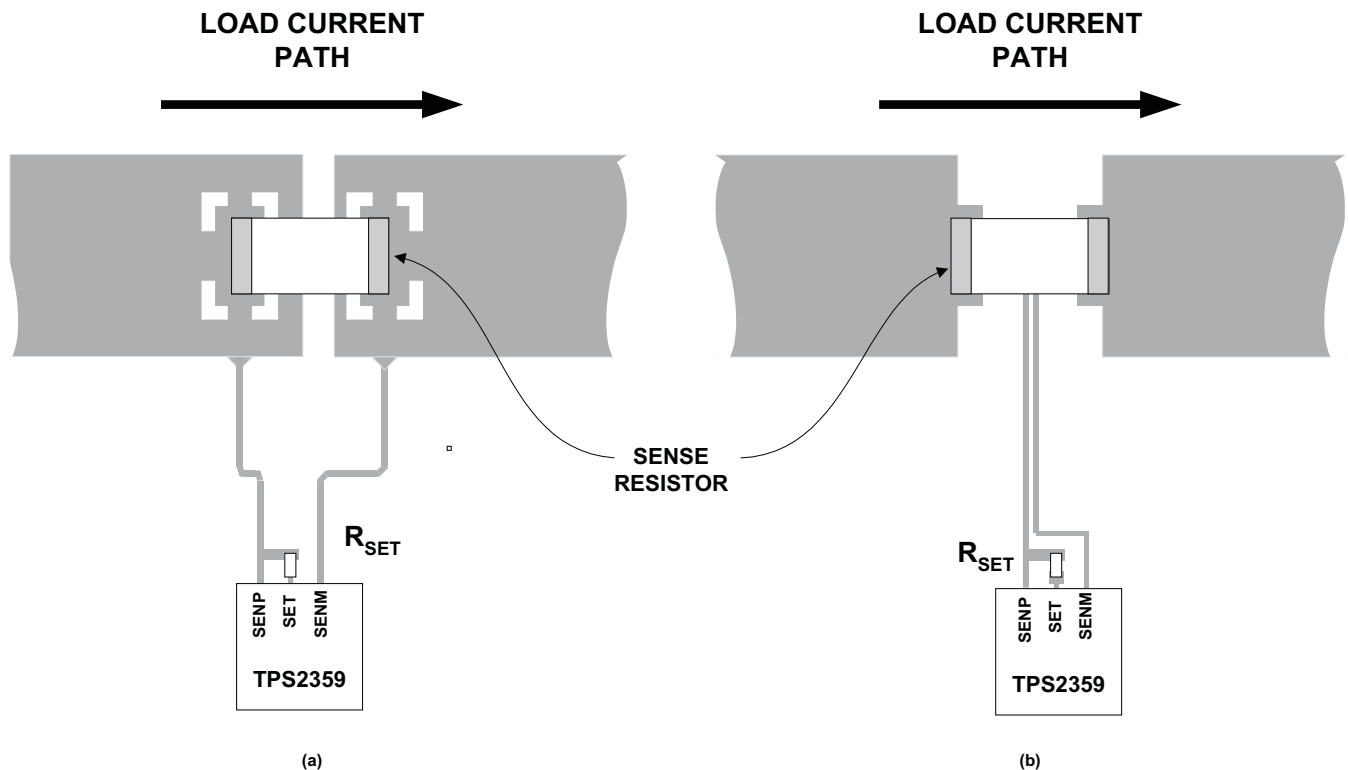

Figure 33. SENMx and SENPx Runs Side-by-Side to Maximize Common Mode Rejection
3. Minimize the loop area between the SENMx and SENPx leads by running them side-by-side. Use Kelvin connections at the points of contact with  $R_{SENSE}$  (Figure 33).